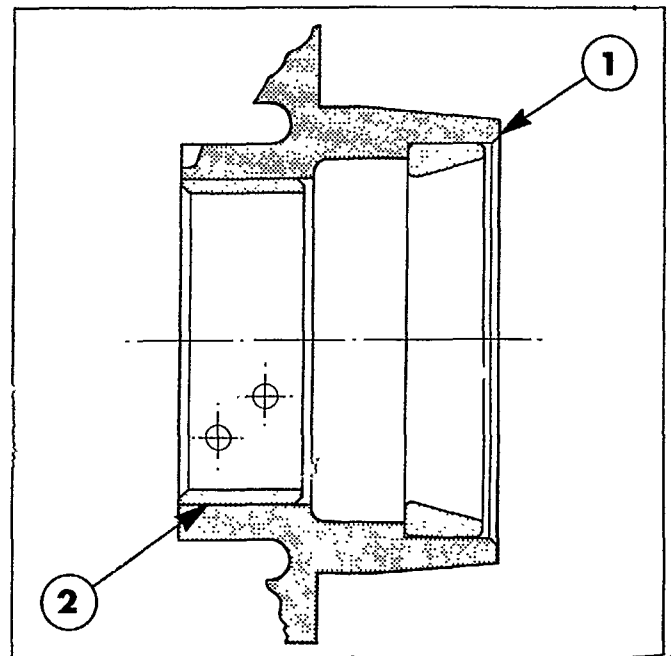

Figure 21
18. Examine the sleeve in the hub of the planetary housing, Figure 21, for excessive damage or wear. Remove the sleeve, if necessary, with a press and suitable step plate. Press a new sleeve into the housing.